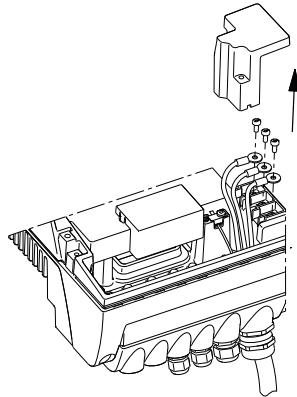

Fig. 23 Cover over the supply terminals
2. Remove the cover over the supply terminals. See fig. 23. Remove the three mains supply conductors from the supply terminals, but leave the protective earth conductor in the PE terminal.